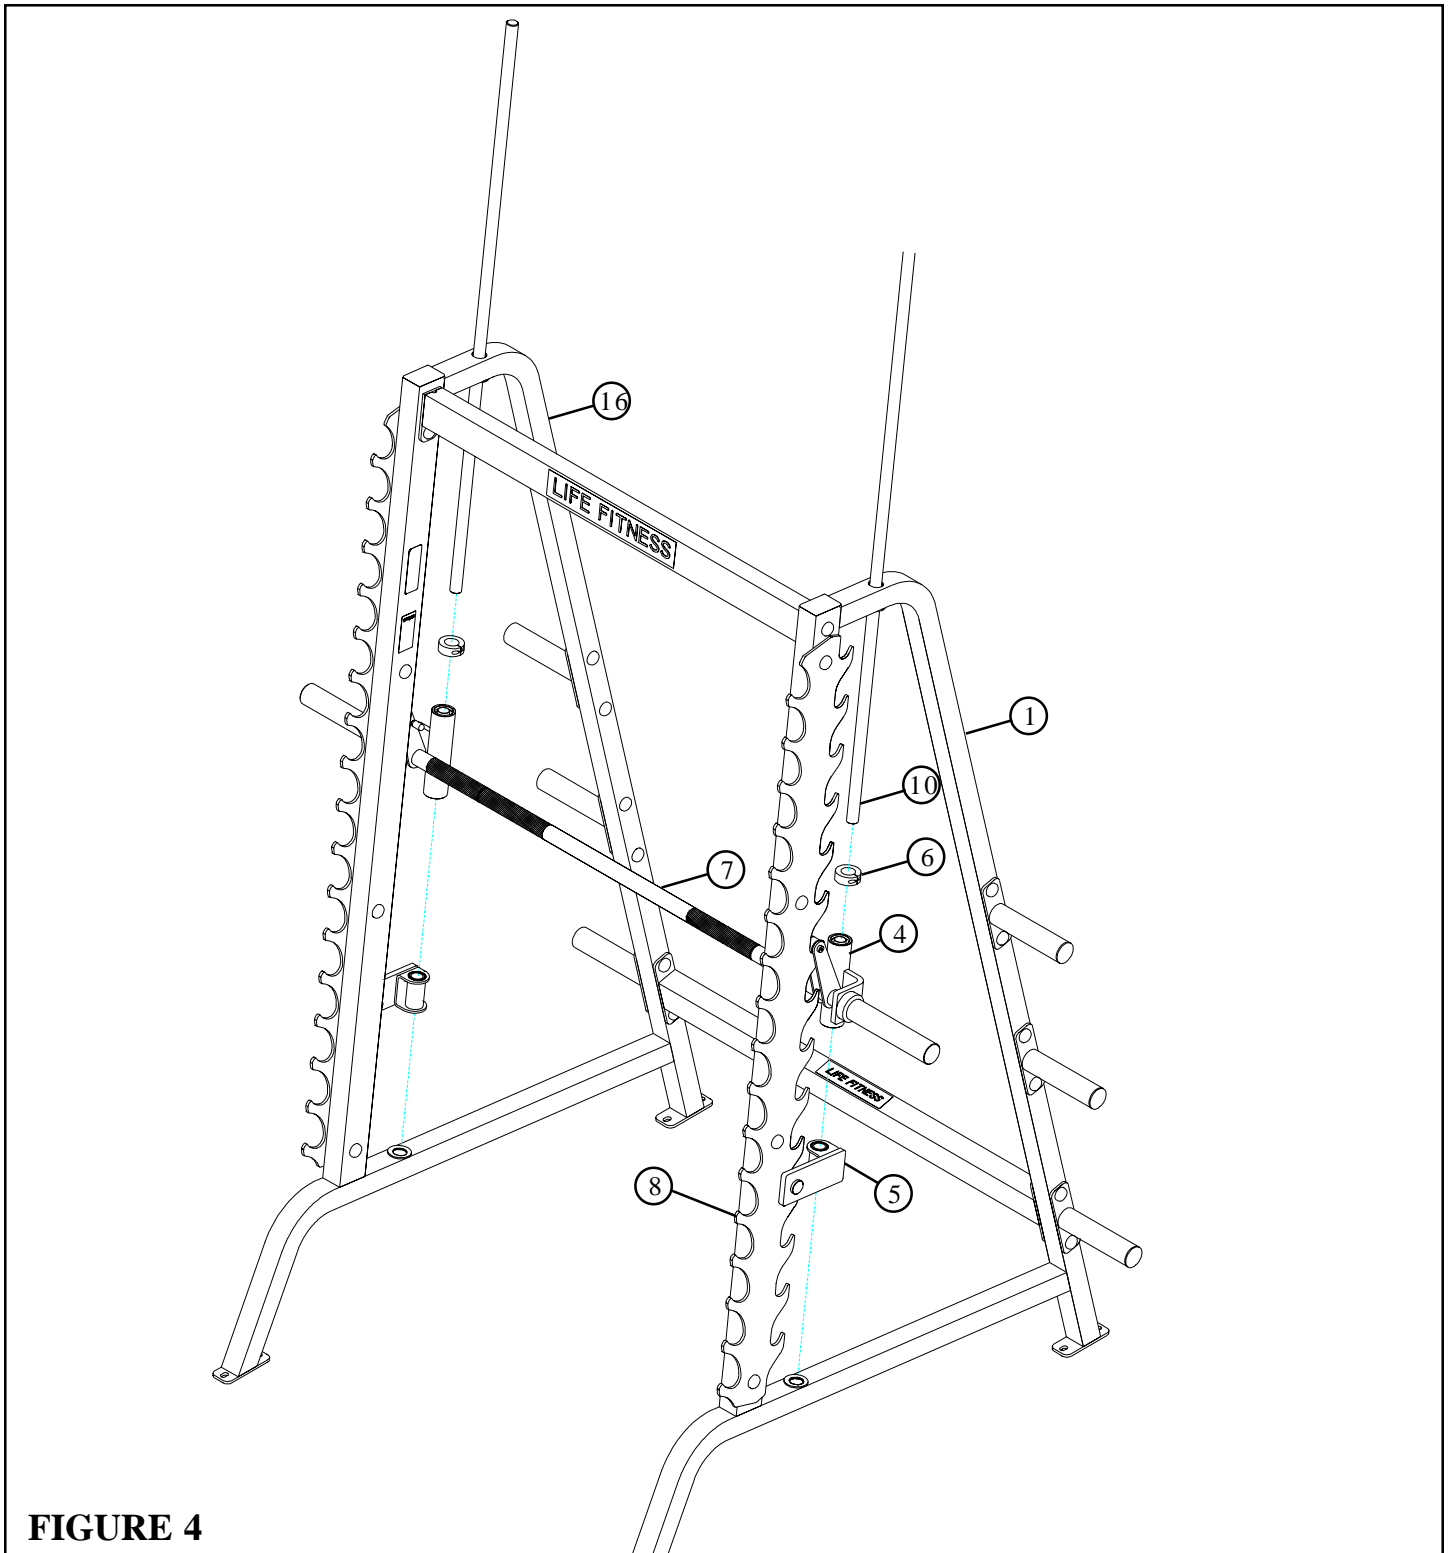

FIGURE 4
- Hook the SMITH BAR (7) onto slots of the BAR SUPPORT RACKS (8).
- Slide one GUIDE ROD (10) through the upper hole in the UPRIGHT (1 & 16) and proceed to slide one 1" SHAFT COLLAR (6) over the bottom of the GUIDE ROD (10) as shown in FIGURE 4.
- **CAREFULLY** lower the GUIDE ROD (10) through the HOUSING (4) on the SMITH BAR (7). (**NOTE: Allow the GUIDE RODS (10) to push the plastic insert out the bottom of the HOUSINGS (4). Discard these inserts.**)
- **CAREFULLY** slide one BAR STOP (5) over the end of the GUIDE ROD (10). Hook BAR STOP (5) into the slots of BAR SUPPORT RACKS (8) as shown.
- Insert the GUIDE ROD (10) into the bottom hole of the UPRIGHT (1 & 16). Repeat this step on the other side.